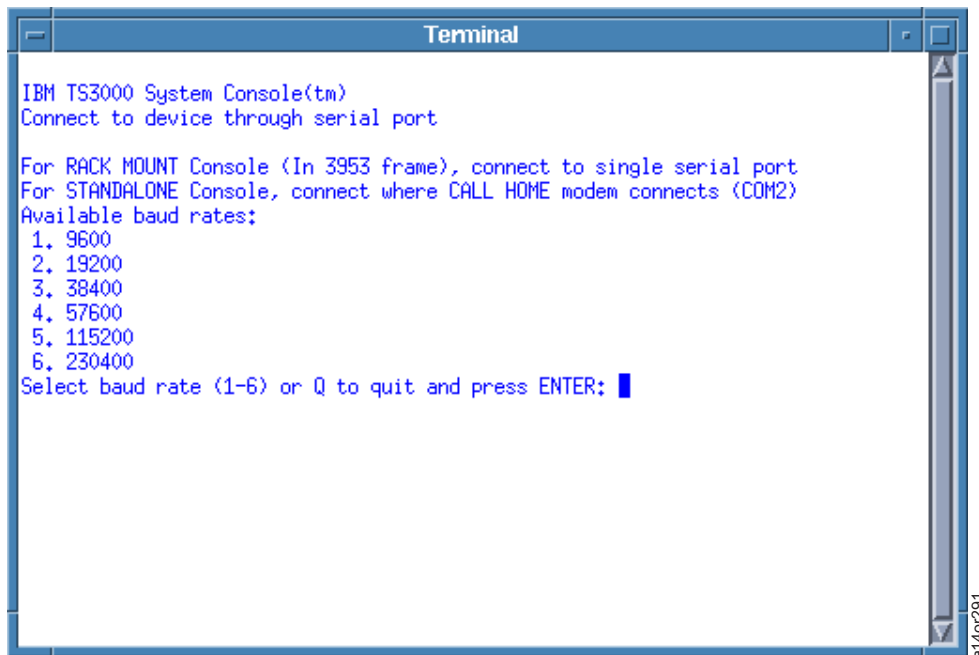

Figure 121. Baud Rate Screen - From TSSC
2. Select **Serial Port**. You see Figure 121. Type the number of the port speed (baud rate) for the device to which you will be connecting. The message 'Connected' appears. Press **Enter**.